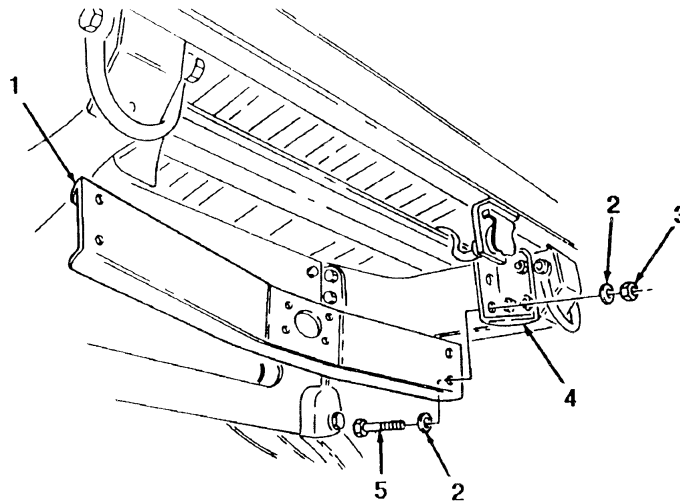

FIGURE 4-1
Install rear crossmember (1) to rear crossmember mounting brackets (4) and secure with four washers (2), capscrews (5), washers (2), and locknuts (3). Tighten locknuts (3) to 90 lb-ft (122 N•m). (see figure 4-1)